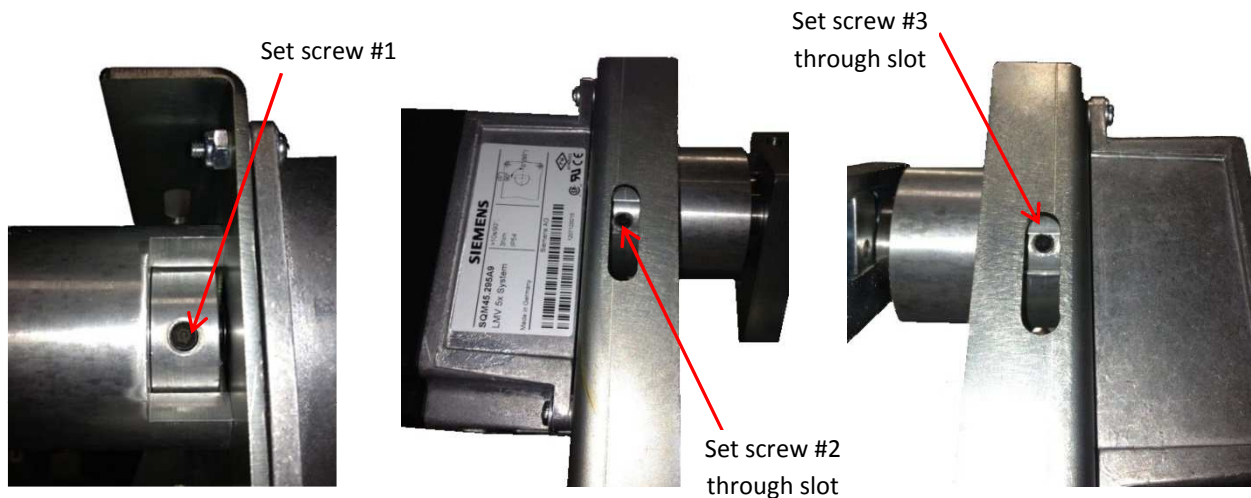

Figure 13: Clamp Collar Set Screws
11. Tighten the three clamp collar set screws. These screws squeeze the bearing block shaft and clamp the actuator shaft. All three screws can be tightened with the actuator in the 0° position by using a 5/32" hex key through the slots in the bracket assembly. Figure 13 shows these set screws.